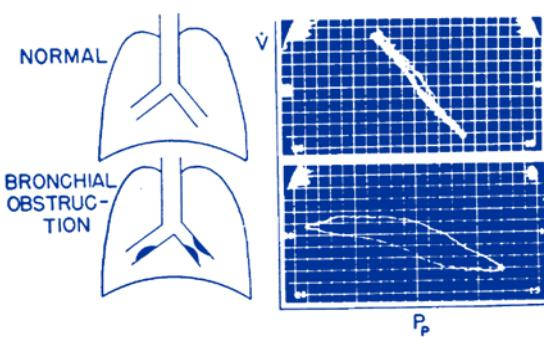

Figure 1a. Photograph of cathode ray screen (shutter open)
- * During this breathing cycle we plot the flow on the vertical (Y) axis vs the box pressure change on the horizontal (X) axis (Figures 1a and 1b, previously Figures 2 and 3 from reference ¹).